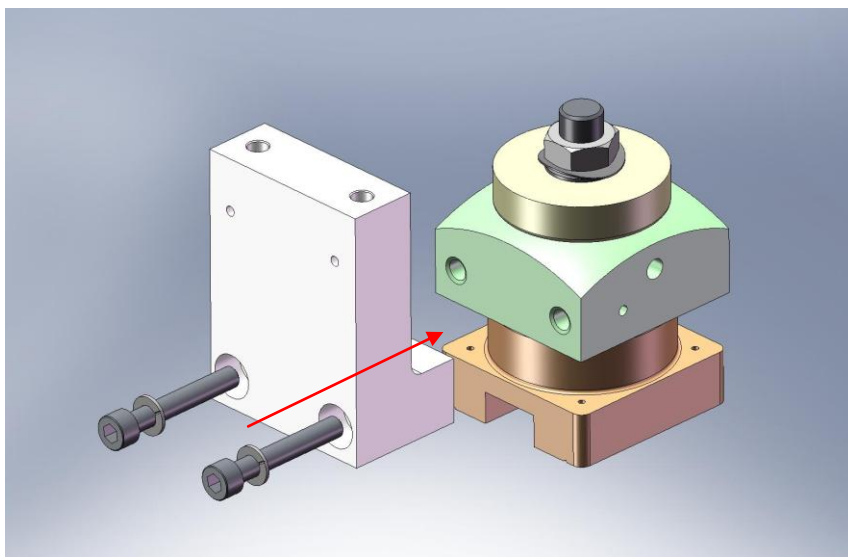

Figure 3.39. Vertical Sensor Head Bracket mounted to Sensor Head Mount.
- For each of (3) **Vertical Position Sensor Assemblies**, attach **Vertical Sensor Head Bracket (D071175)** to **Sensor Head Mount**, as shown in Figure 3.39. Add screws and torque to final spec.